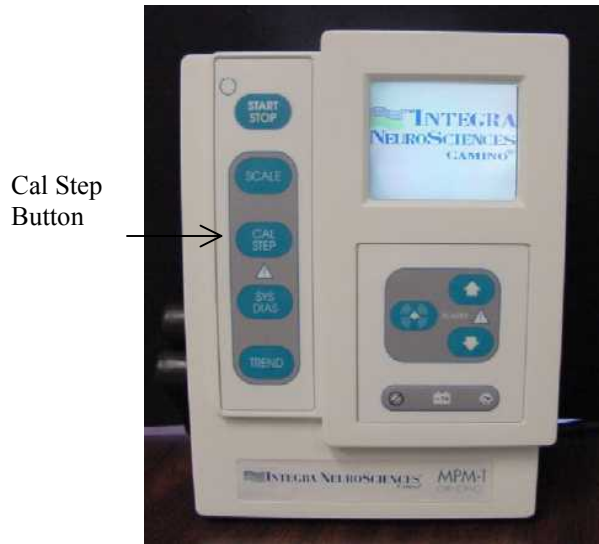

Figure 2-7 CAL STEP Button
7. If the MPM-1 is connected to an external bedside monitor, the **CAL STEP** button (Figure 2-7) may be used to calibrate or balance the bedside monitor. Each press advances to the next mmHg value in the following series: 0, 20, 40, 100, 200 and back to 0. The **CAL STEP** momentarily interrupts normal pressure signal on both the MPM-1 and on the external bedside monitor. Press the **CAL STEP** button repeatedly until 0 mmHg is displayed on the MPM-1. While keeping the button depressed to maintain 0, simultaneously zero the bedside monitor, then release the **CAL STEP** button. Within a few seconds, the MPM-1 will return to the pressure display. Note that the **CAL STEP** button may be used at any time, and does not affect the transducer calibration.